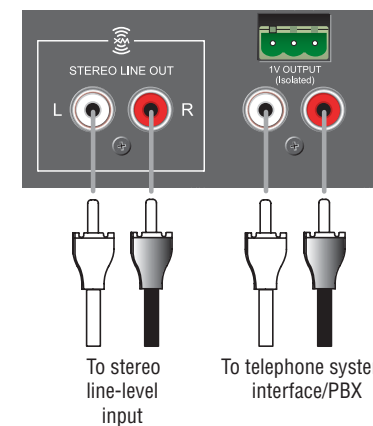

Figure 2.9 Connections to the Stereo Line Out Connector and the MOH Stereo Line Out Connector
Use 1-conductor shielded cable and RCA plugs for the Stereo Line Out connector and the MOH 1V Line Output RCA Connector (Figure 2.9).
• **MOH 1V Line Output Connector:** 3-pin Phoenix connector, 600-ohm transformer-isolated output, provides Music-On-Hold signal of approximately 1 volt. See Figure 2.9.
• **MOH 1W Line Output Connector:** 3-pin Phoenix connector provides Music-On-Hold signal of approximately 1 watt. See Figure 2.9.